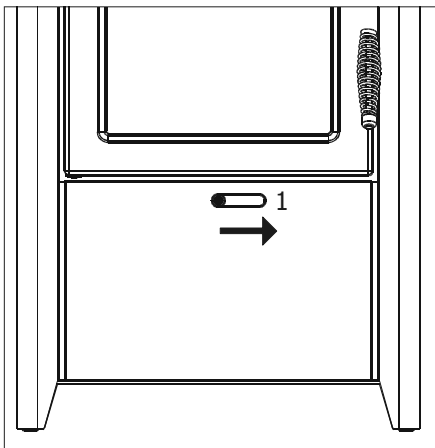

Fig.4 Primary air inlet
The lever turned towards the right (pos.1) is designed to bring a large quantity of primary air beneath the combustion chamber fire plane, to allow rapid and effective ignition of the fire (Fig.4).